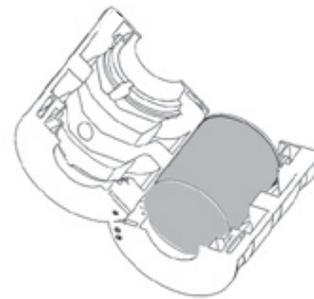

Figure 1
- **Gallon Cans:** Insert the can into the can holder. Slip the bail handle into the clip retainers (D).
- **Quart Cans:** Place the can inside the quart adapter, **9783761** (A). Set the quart can horizontally with the lid up. (See Figure 1)